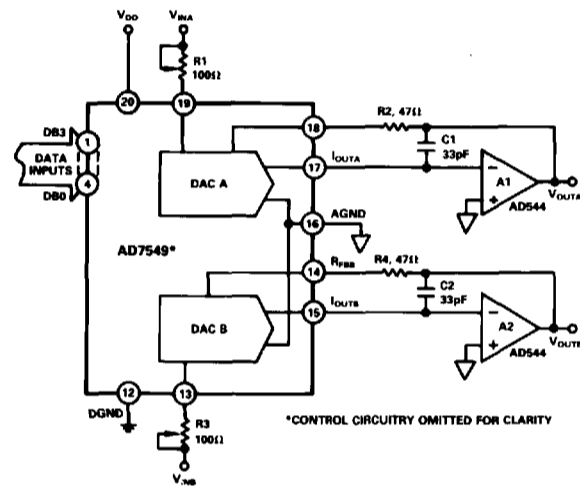

Figure 2. AD7549 Unipolar Binary Operation
Figure 2 shows the circuit diagram for unipolar binary operation. With an ac input, the circuit performs 2-quadrant multiplication. The code table for Figure 2 is given in Table II.
Table II. Unipolar Binary Code Table for Circuit of Figure 2
**Output Offset:** CMOS D/A converters in circuits such as Figures 2 and 3 exhibit a code dependent output resistance which in turn can cause a code dependent error voltage at the output of the amplifier. The maximum amplitude of this offset, which adds to the D/A converter nonlinearity, depends on  $V_{OS}$  where  $V_{OS}$  is the amplifier input offset voltage. To maintain monotonic operation, it is recommended that  $V_{OS}$  be no greater than  $(25 \times 10^{-6})(V_{REF})$  over the temperature range of operation. Suitable op amps are AD644L, AD517L and AD544L. The AD517L is best suited for fixed reference applications with low bandwidth requirements: it has extremely low offset ( $50\mu V$ ) and in most applications will not require an offset trim. The AD544L has a much wider bandwidth and higher slew rate and is recommended for multiplying and other applications requiring fast settling. An offset trim on the AD544L may be necessary in some circuits.
**Feedthrough:** The dynamic performance of the AD7549 depends upon the gain and phase stability of the output amplifier, together with the optimum choice of PC board layout and decoupling components. A suggested printed circuit layout for Figure 2 is shown in Figure 4 which minimizes feedthrough from  $V_{REFA}$ ,  $V_{REFB}$  to the output in multiplying applications.